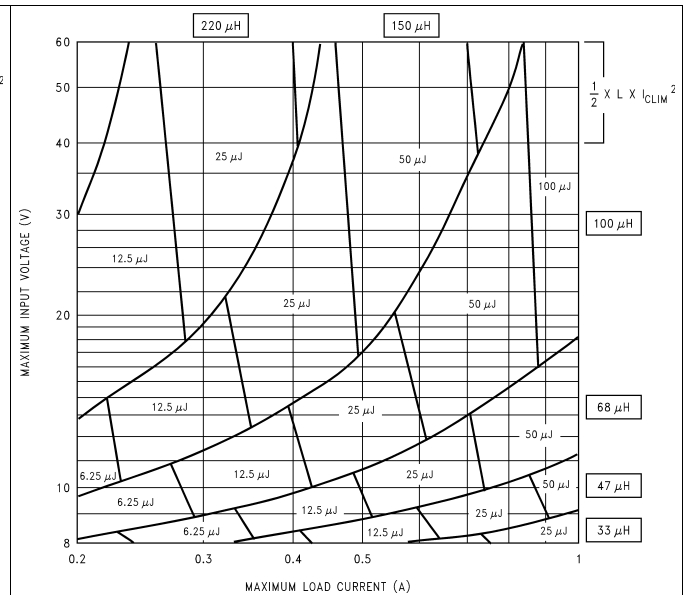

Figure 34. LM2590HV 5-V
1. A first pass inductor selection is based upon Inductance and rated max load current. We choose an inductor with the Inductance value indicated by the nomograph (see Figure 34) and a current rating equal to the maximum load current. We therefore quick-select a 68- $\mu\text{H}$ , 1-A inductor (designed for 150 kHz operation) for this application
2. We must confirm that it is rated to handle 50  $\mu\text{J}$  (see Figure 34) by either estimating the peak current or by a detailed calculation as shown in AN-1197 Selecting Inductors for Buck Converters (SNVA038), and also that the losses are acceptable.
with the Inductance value indicated by the nomograph (see Figure 34) and a current rating equal to  $I_{CLIM}$ . We therefore quick-select a 68- $\mu$ H, 4-A inductor (designed for 150 kHz operation) for this application.